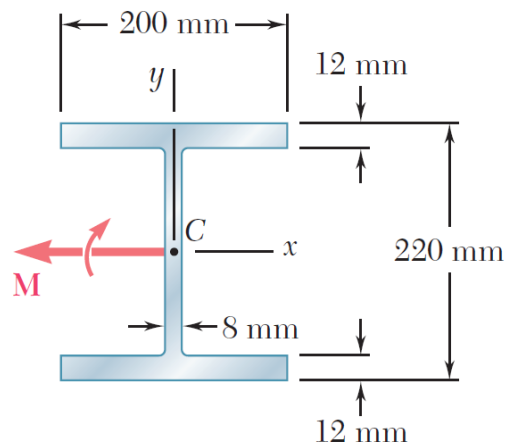

Figure Q2b
- (b) Determine the largest bending moment  $M$  that can be applied to the beam shown in Figure Q2b. Take the allowable stress as 155 MPa and neglect the effect of fillets.